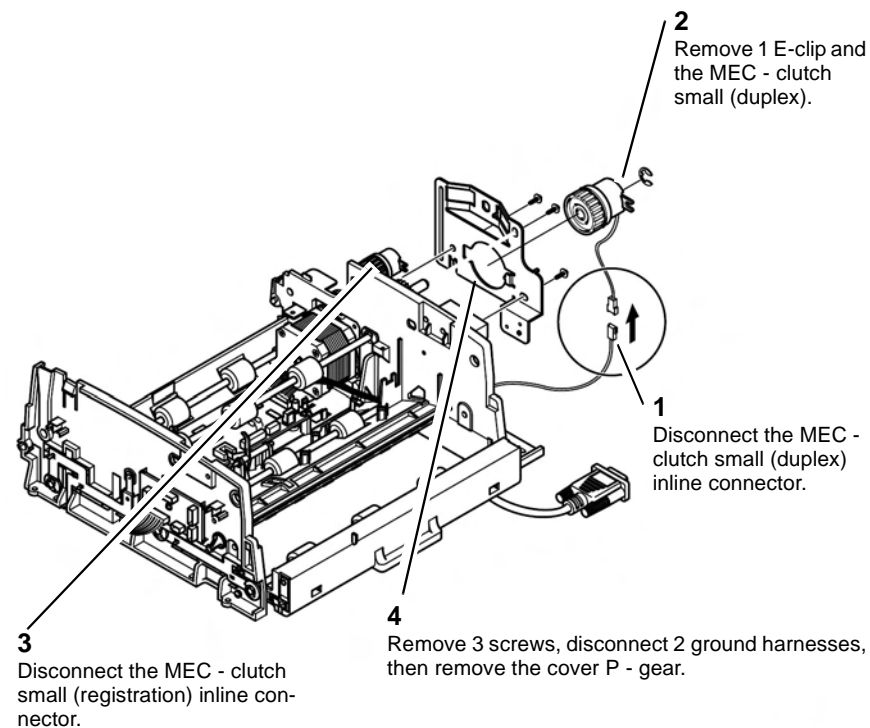

Figure 17 Cover - P gear removal
18. Remove the cover - P gear, Figure 17.